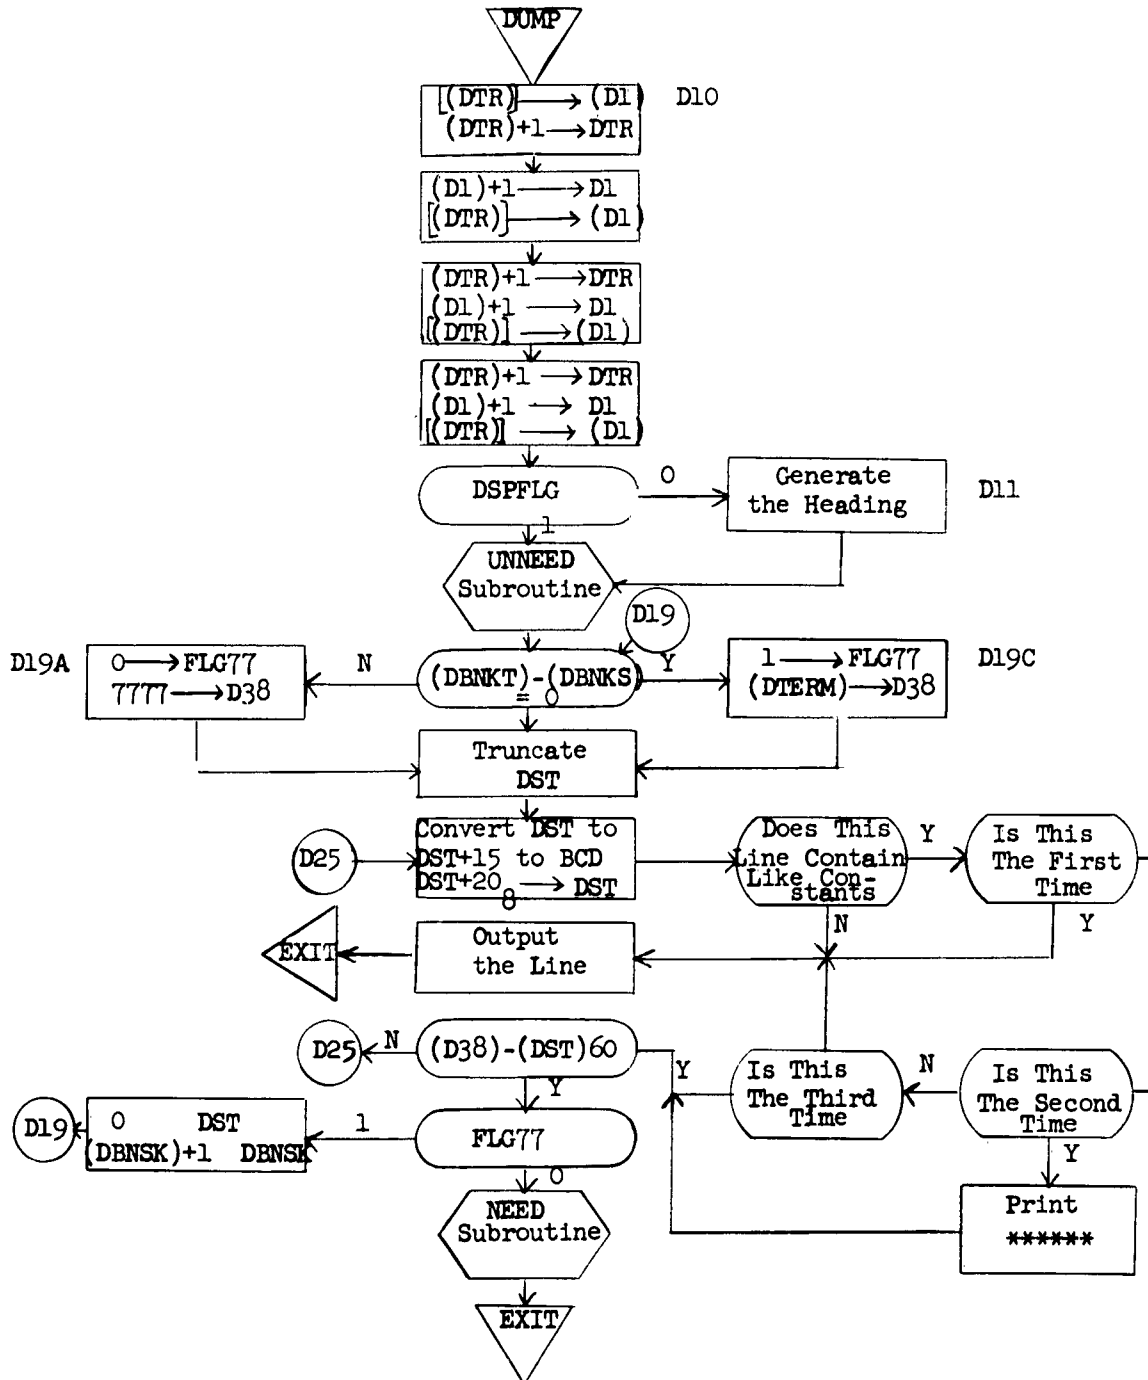

Figure 7.18 DUMP
7.3.2 DUMP Subroutine (Figure 7.18)